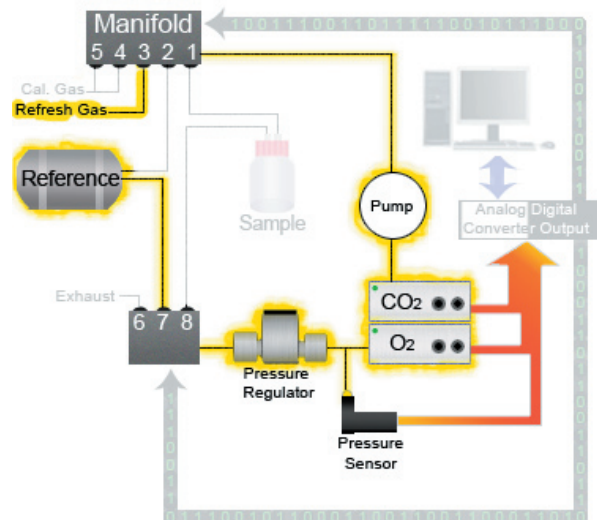
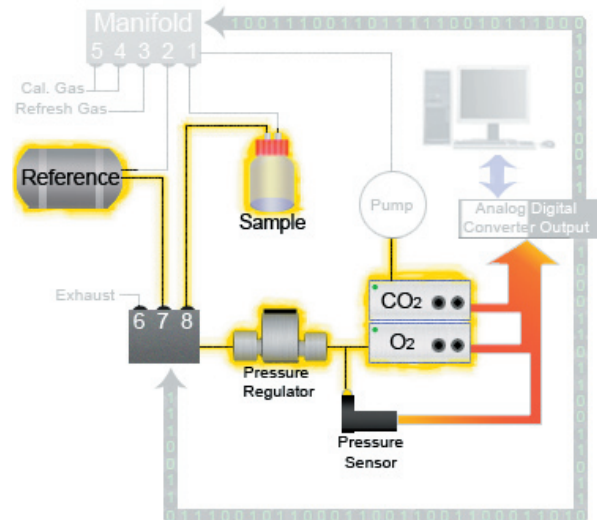

Figure 7
Figure 8
Step 3: Now we measure the Sample Chamber Volume. All we do here is basically repeat Steps 1 and 2. First, we equalize the pressure between the Reference Chamber, Sample Chamber, Sensors and room air until they reach barometric pressure. We close all the valves and then begin pressurizing the system with fresh air again. Except this time, we start with the Reference Chamber and Sensors and bring them to a pressure that is about 50 mmHg above barometric pressure (Figure 7). We allow the pressure to settle and record our fourth pressure ( $P_4$ ). Once this pressure is recorded, we then allow the pressure to equalize with the Sample Chamber (Figure 8). Once settled, we get our fifth pressure ( $P_5$ ).